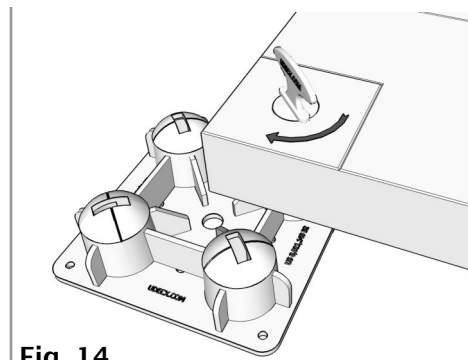

Fig. 14
7. Rotate each of the Cam Locks (C) clockwise 90 degrees using the Lock Tool (E). (Fig. 14 & 15)